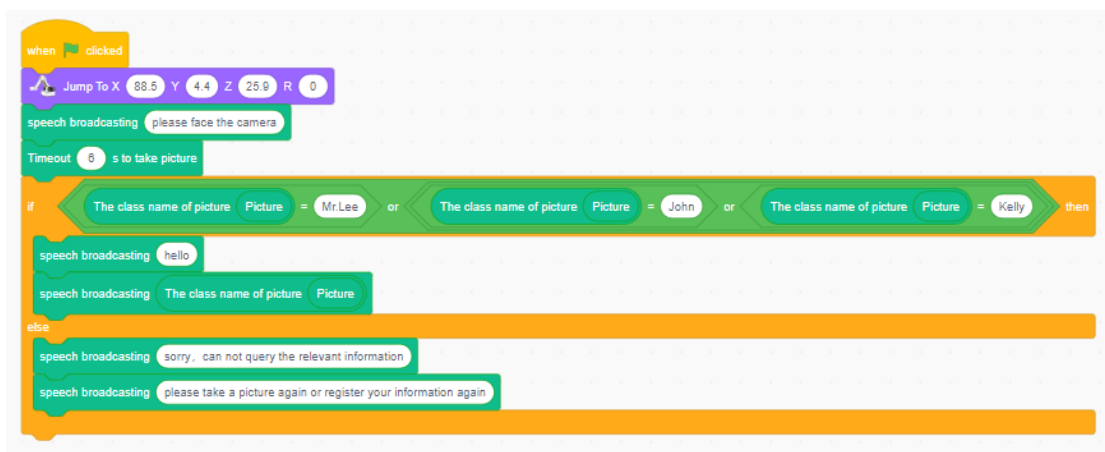

Figure 5.8 Authenticating the identity
Step 11: Play the corresponding name if the facial picture is in the dataset; otherwise remind the user to take a new photo or re-enter the information, as shown in Figure 5.8.